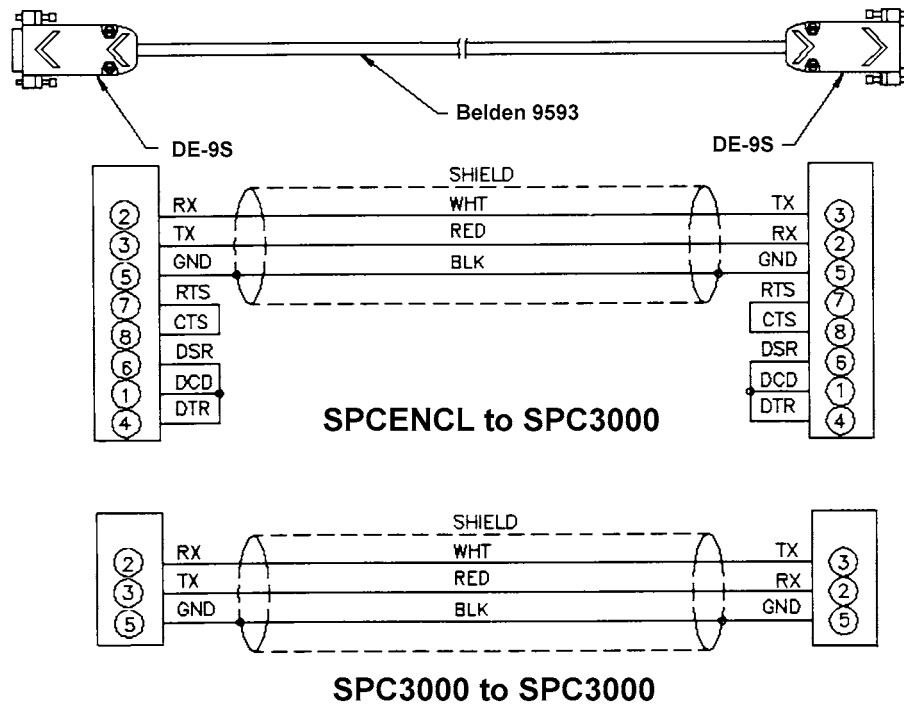

Figure 5 - RS232C Wiring
Each SPCENCL3200 has two Serial connections. The Serial connections are only used for communication with a SPC3000 Calibrator or another Auxiliary Serial Device. COM1 connects to Calibrator number one (1). The serial connection to other SPC3000 modules in the SPCENCL3200 are "daisy chained from one calibrator to the next. Each calibrator has a unique address. The connections conform to the RS232C standard. The connector wiring is shown in Figure 5 below.